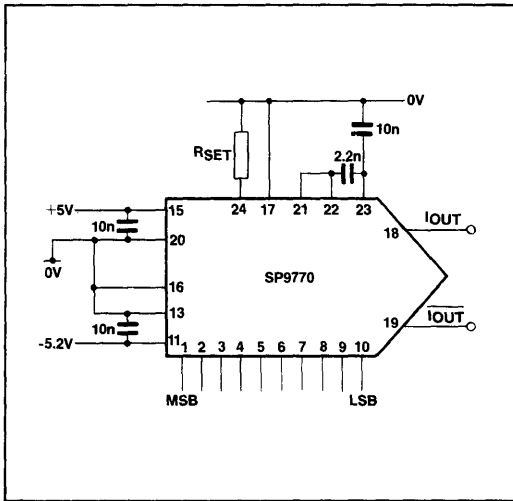
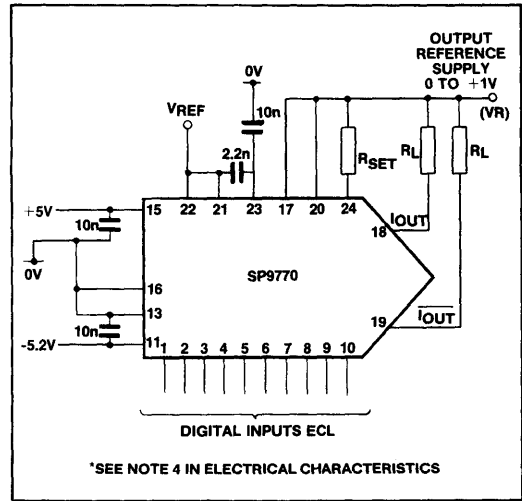

Fig.3 Conventional D/A operation using on-chip reference
Fig.4 Voltage output referred to a positive voltage for outputs biased above ground
- The output positive compliance can be increased beyond +1.0V at the expense of linearity. See Fig.4 for circuit configuration.
The reference supply is internally compensated; however, to reduce the possibility of instability or noise generation, pin 21 should be decoupled as shown in Fig.4. The current loop technique has been used with a high performance loop amplifier. The current is set by an external resistor as described above. Stabilisation of the loop amplifier is achieved by a single capacitor from pin 23 to ground. Minimum value is 3900pF, although a 10nF chip ceramic is recommended.
Fig.3 shows a suggested circuit for a conventional D to A using the on-chip voltage reference.
Fig.4 shows the method of using the SP9770 with a load resistor not referred to ground, allowing a larger output swing than the conventional connection of Fig.3. Connecting pins 17 and 20, and the current setting resistor R_{SET} to the load reference supply ensures that the scale factor of the output is independent of the load reference.